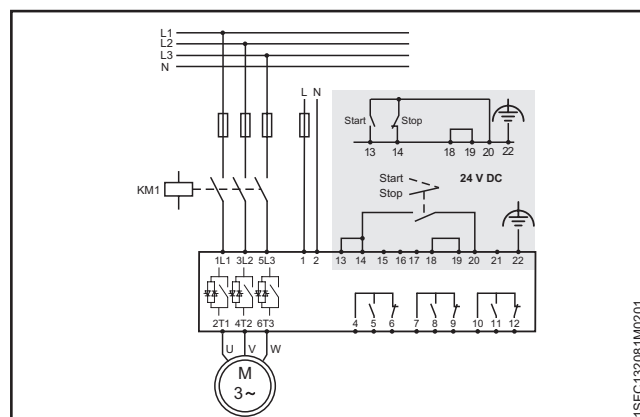

Figure 2.7
- Look at the diagram, see **Figure 2.7**, and connect the start/stop circuits: terminal 13, 14, 18, 19 and 20/21, with the internal 24 V DC terminal. When you use internal 24 V DC (terminals 20 or 21), the terminals 18 and 19 must be connected to each other. For external control circuit voltage, see chapter **5.1.2.3 Start and Stop - terminals 13, 14, 18, 19, 20, 21**.